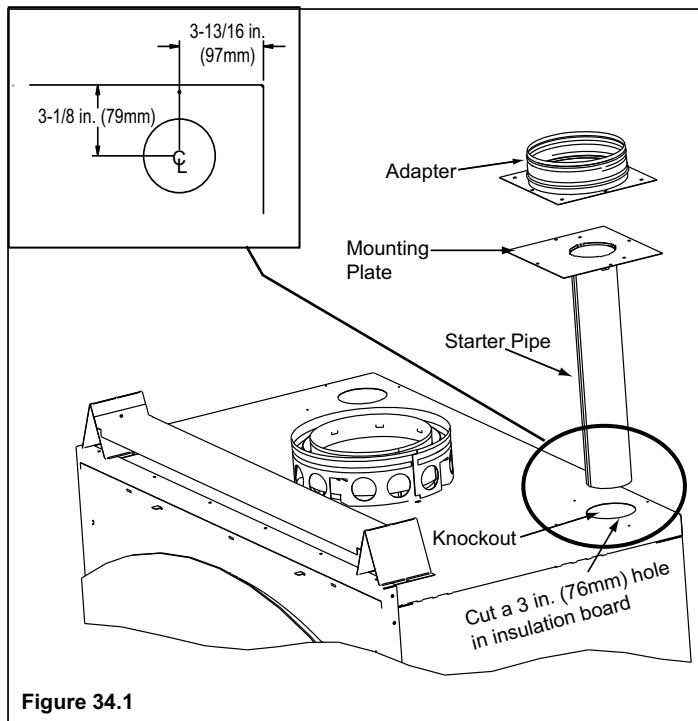

Figure 34.1
1. Remove the knockout or cover plate from the top of the fireplace and discard it. See Figure 34.1.
2. Cut a 3 in. (76mm) hole in the insulation board as per the dimensions shown in Figure 34.1.